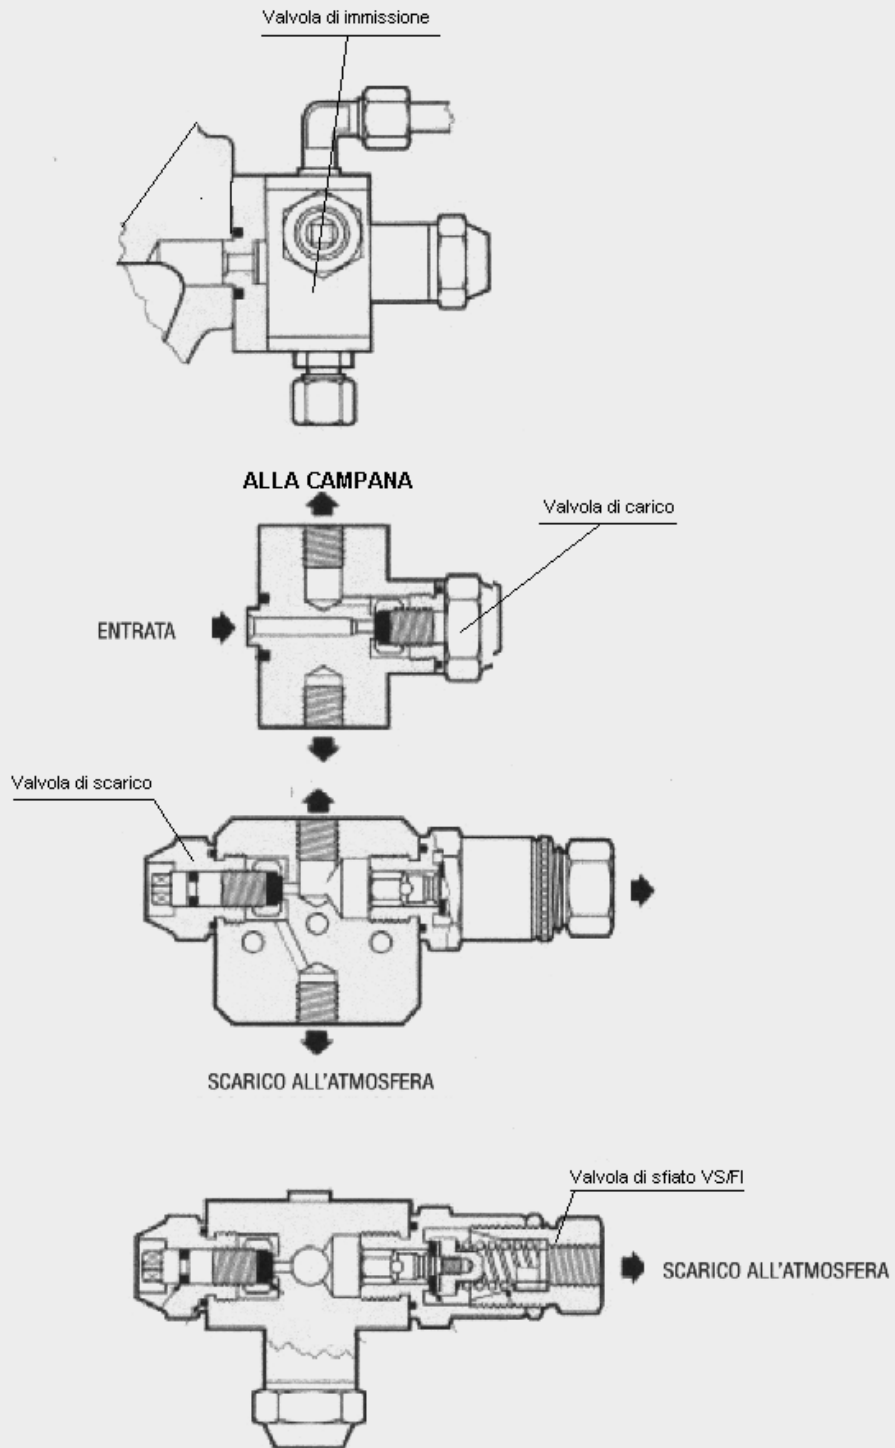

Figure 6
- Slowly open the on/off valve placed upstream of the regulator in order to assure a small gas flow rate passing through the relief valve positioned downstream of the regulator. The regulator, which just before pressurization is in opening position due only to the weight of the moving equipment, tends to close itself, because there is an initial feeding of gas from the seat (4) taking the part downstream and, consequently, the chamber (5) under pressure.
- Once this first step is completed, it is possible to slowly open the inlet valve (8), which feeds gas into the chamber (3). In this way, balance among the forces acting on the moving equipment is reached and when such balance is exceeded the obturator opens letting the gas flow downstream. Balance is restored by means of the sensing line connecting the chamber (5) with the downstream piping.
Any correction to the calibration can be performed by feeding gas into the static chamber through the valve (8) to increase the calibration value or discharging it through the valve (10) to reduce the calibration value (see figure 6).
The chamber (3) and the chamber (5) are protected against any overpressure, each by means of an adjustable relief valve (valve VF/SI) (see figure 6); these valves are already installed in the factory.